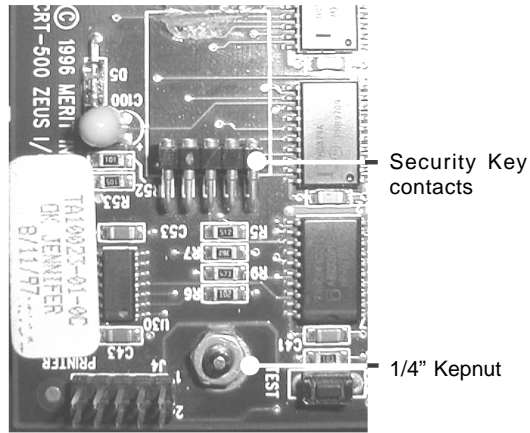

FIGURE 16 - 1/4" KEPNUT LOCATION ON THE I/O BOARD
22. Remove the 1/4" kepnut on the I/O board as shown in Figure 16. Re-secure the I/O board using the provided female/male threaded standoff. (Make sure not to overtighten standoff as it may cause damage to the board.) See Figure 17 for standoff location.
26. Remove the 1/4" kepnut on the I/O board as shown in Figure 16. Re-secure the I/O board using the provided female/male threaded standoff. (Make sure not to overtighten nut as it may cause damage to the board.) See Figure 17 for standoff location.